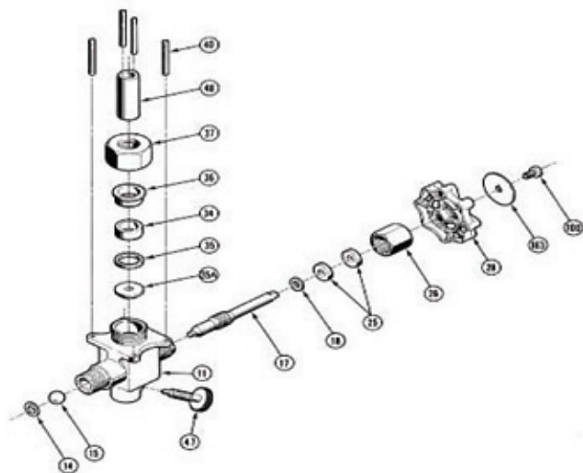

FIGURE 2
**Note:** In some circumstances, it may be necessary to remove glass packing nut, glass packing retainer and glass packing, and mount them on sight glass prior to insertion of glass into upper and lower gaugecock bodies. See Figure 2 for proper assembly sequence.
- a. Refer to exploded view Figure 2.
- c. Slip stem packing retainer (18) on stem (17) and install new stem packing (25).
- e. Assemble stem packing nut (26) and tighten in place.
- f. Assemble handwheel (28) or lever (261), nameplate (163) and handwheel screw (100) on stem and tighten securely into place.
- g. Replace glass packing nut (37), glass packing gland (36), new glass packing (34) and glass packing retainers (35) on each end of tubular glass (48).